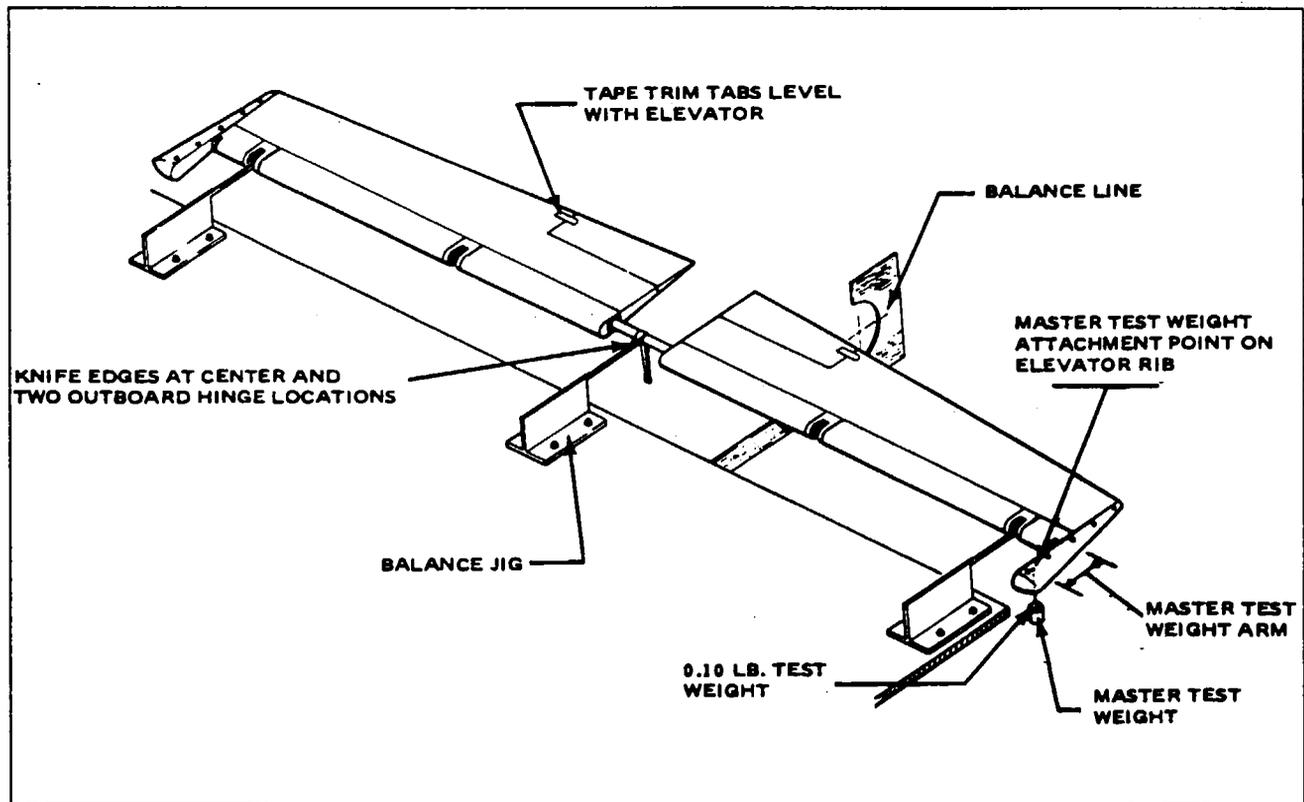

Figure 4-11. Checking Elevator Balance
4-83a. ELEVATOR BALANCING PROCEDURE. (Serial Nos. 31P-1 to 31P-7400219 incl. and 31P-7400228 to 31P-7530012 incl.) (Refer to Figure 4-11.)
4-83b. ELEVATOR BALANCING PROCEDURE. (Serial Nos. 31P-7400220 to 31P-7400227 incl. and 31P-7530013 and up.) (Refer to Figure 4-11.)
4-84. ELEVATOR CONTROL SYSTEM FRICTION MEASUREMENT. (Refer to Figure 4-11 a.) The complete control system including Autopilot, if installed, must be checked to determine the total friction. The system must be rigged to its proper travels and cable tensions prior to determining the total friction.
- b. Attach a spring scale to the inboard trailing edge of the elevator, outboard of the tab as shown in Figure 4-11 a.